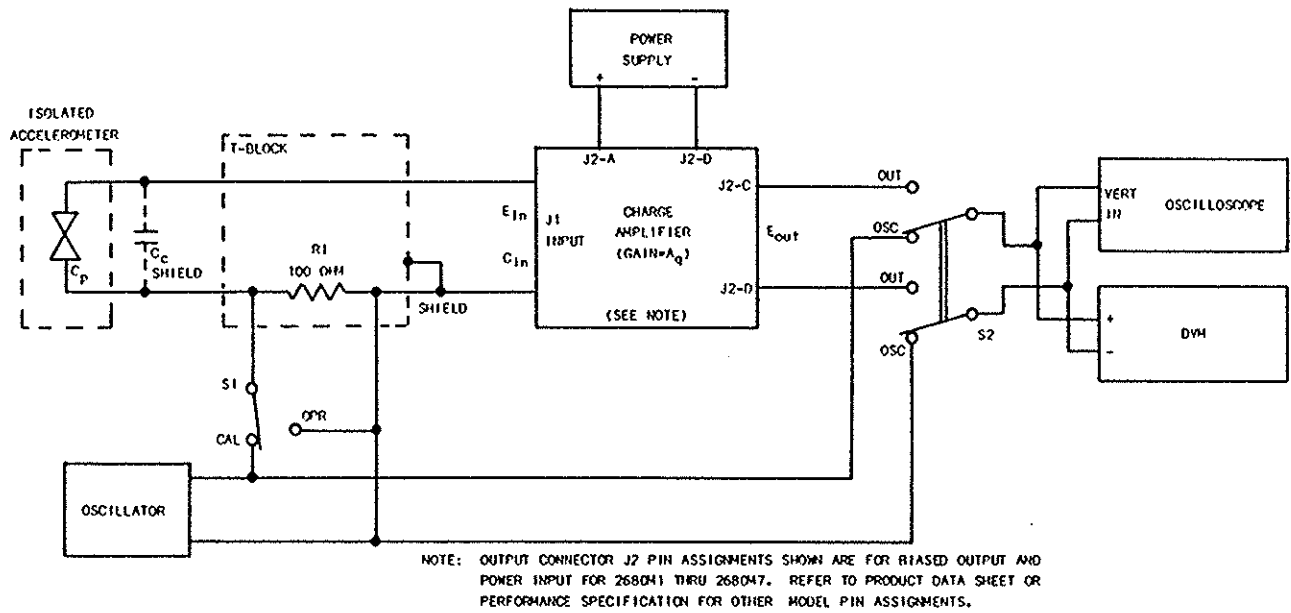

Figure 3-1. Voltage Insertion Test Setup.
- a. Connect equipment as shown in Figure 3-1. Ensure accelerometer is isolated from ground. As shown in Figure 3-1, the accelerometer acts as a passive transducer when driven by the oscillator.
- e. Set switch S2 in Figure 3-1 test setup to OSC position. Readout devices should receive output of oscillator.